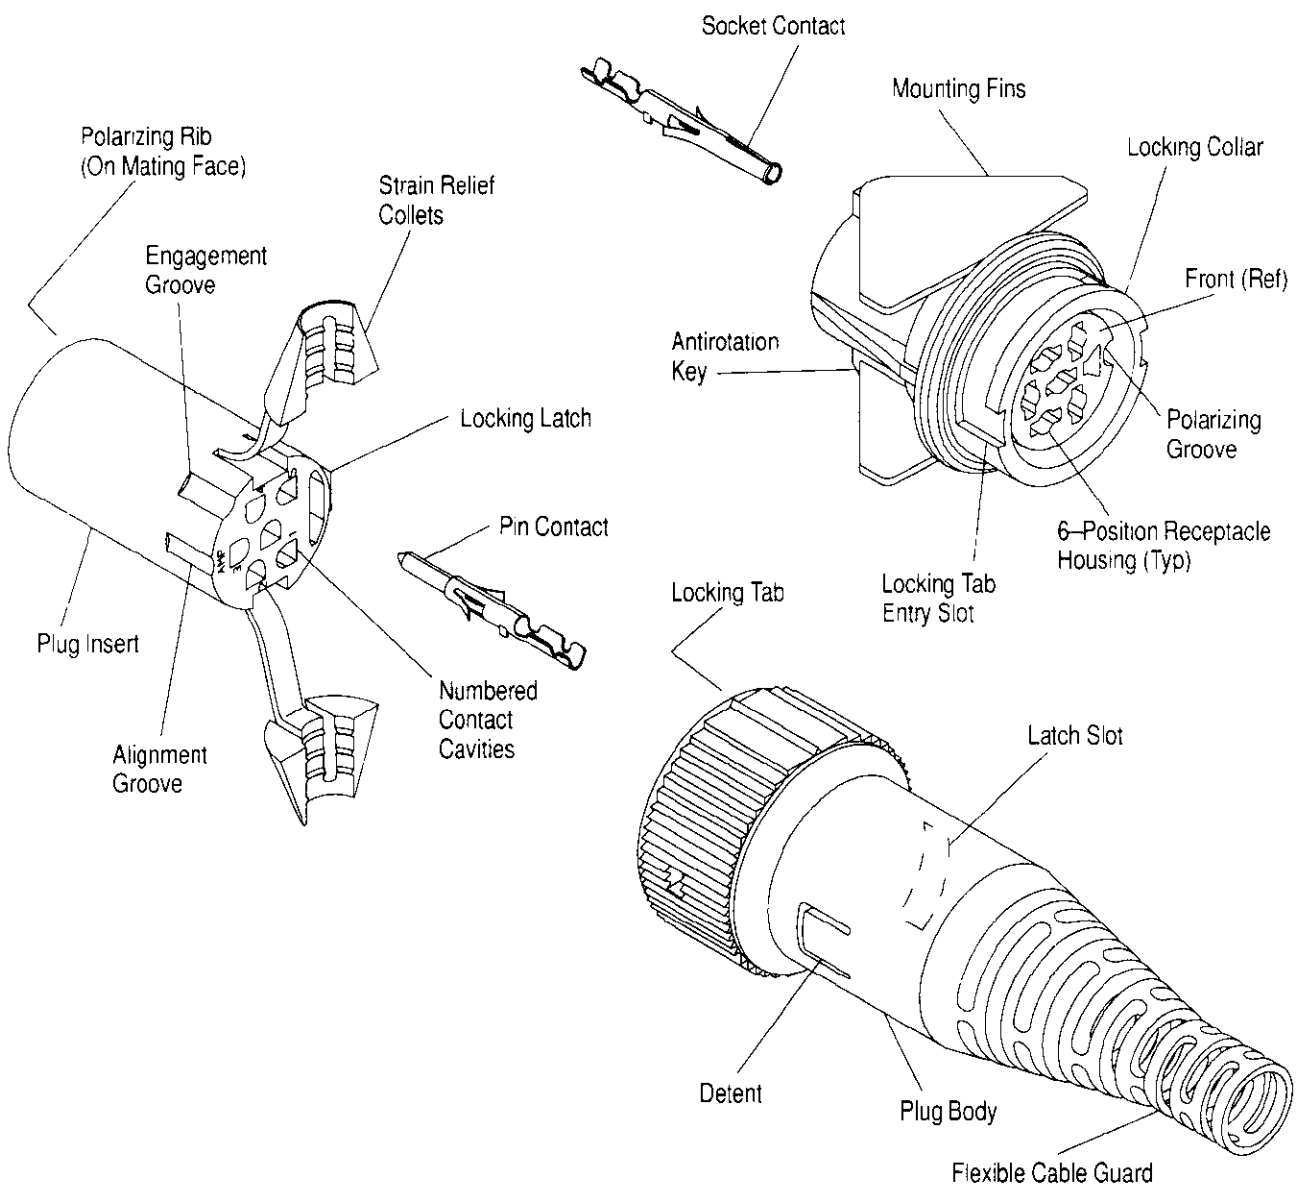

Figure 1
When corresponding with AMP personnel, use the terminology provided on this specification to help facilitate your inquiry for information. Basic terms and features of components are provided in Figure 1.
- Add new Figures 1, 2, 4, 5, 8, 9, 10, and 11
Each receptacle has a polarizing groove and each plug insert has a polarizing rib to ensure proper mating. Contact cavities are numbered on the BACK of each connector to provide circuit identification. See Figure 1.